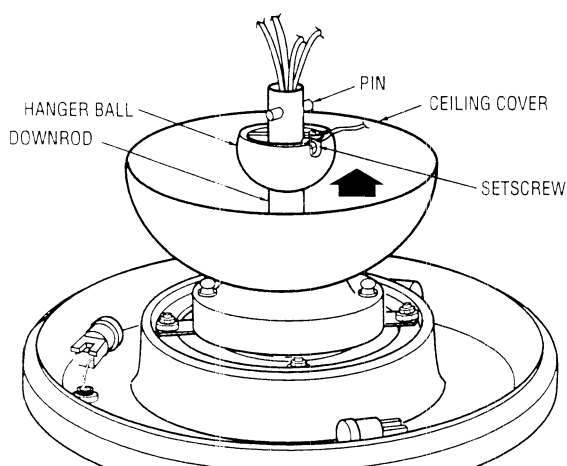

Figure 8
10. Position the ceiling cover over the hanger pipe (Figure 8). Be sure the cover is oriented correctly, with the large opening at the top.
11. Install the hanger ball on the hanger pipe as follows. Route the wiring harness connectors through the hanger ball and slide the hanger ball over the hanger pipe. Install the pin through the holes at the top of the hanger pipe and slide the hanger ball up the hanger pipe, aligning the ball so the pin is captured in the groove in the top of the hanger ball (Figure 8). Pull the hanger ball up tight against the pin and securely tighten the setscrew in the hanger ball. **A loose setscrew could create the fan to wobble.**